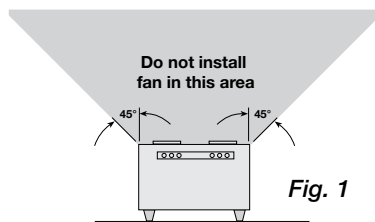

Fig. 1
- For best performance, choose a location with the shortest possible duct run and minimum number of elbows. Do not mount near cooking equipment, as shown in Fig. 1.